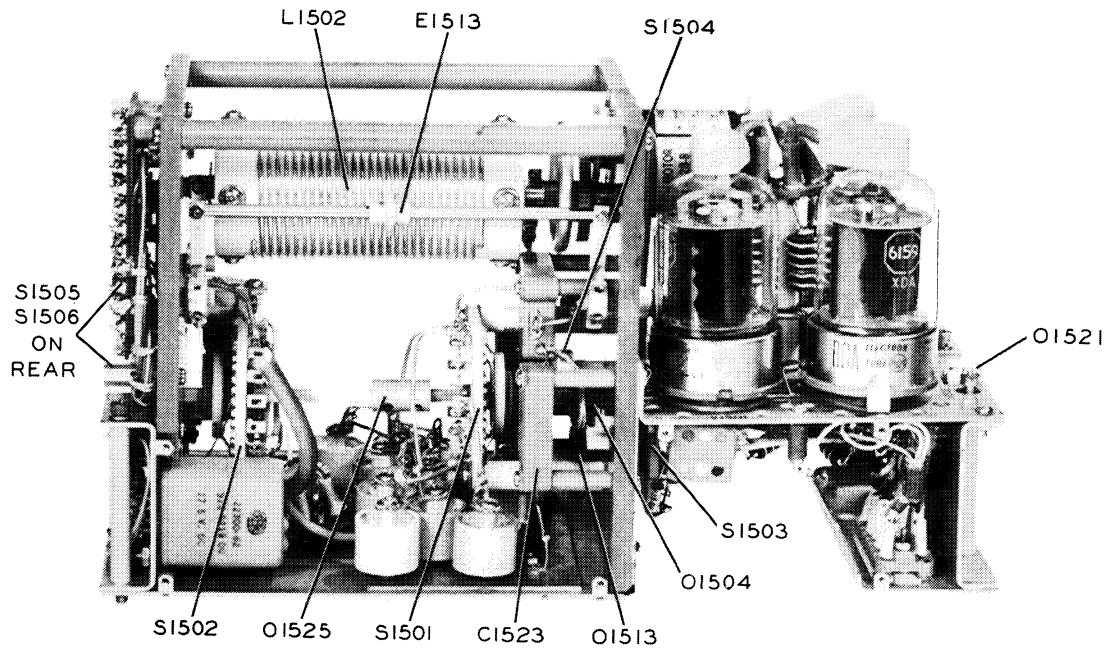
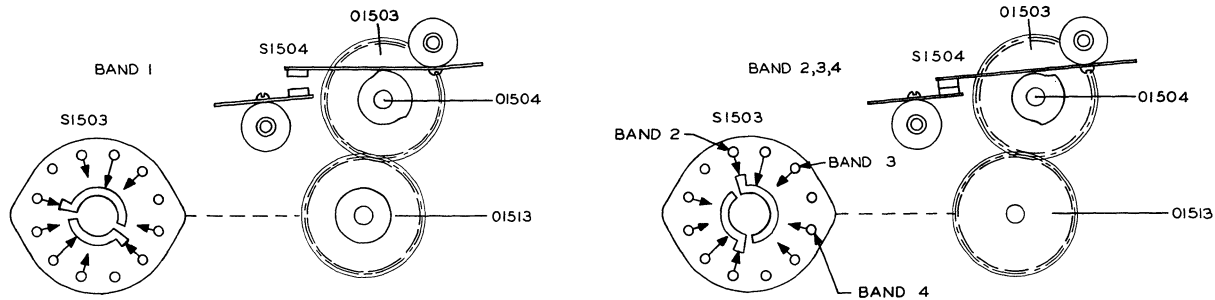

Figure 6-16. Power Amplifier, Alignment Points
Figure 6-18. Power Amplifier, Alignment of Switch S1504
Use the following procedure in aligning the power amplifier unit mechanically. All symbol number references are given as callouts in figures 6-16, 6-17, and 6-18.
b. Synchronize S1503 and S1504 as shown in figure 6-18 so that S1504 is open when S1503 is in the band 1 position and closed in band positions 2, 3, and 4. It may be necessary to loosen the setscrew in gear O1513. Refer to figures 6-16 and 6-18 for location of this gear.